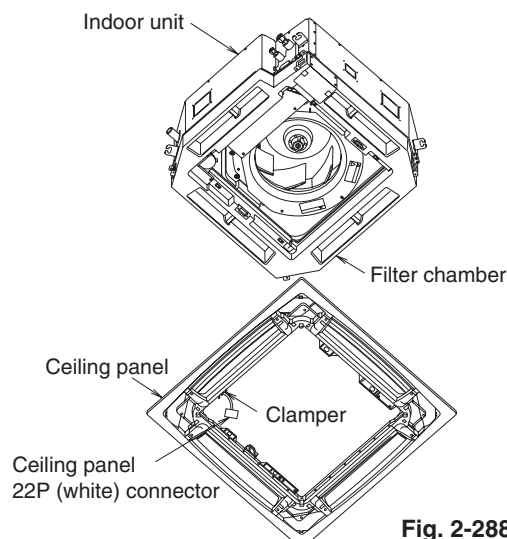

Fig. 2-288
##### (3) Installing Ceiling Panel (Fig. 2-288)